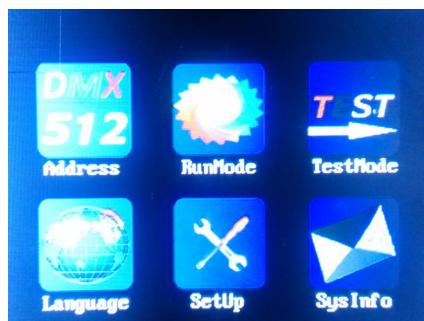

Figure 3
- 1) Address settings: after set up, need to press "OK" to save the address code, and return to the main menu. As shown in Figure 3.